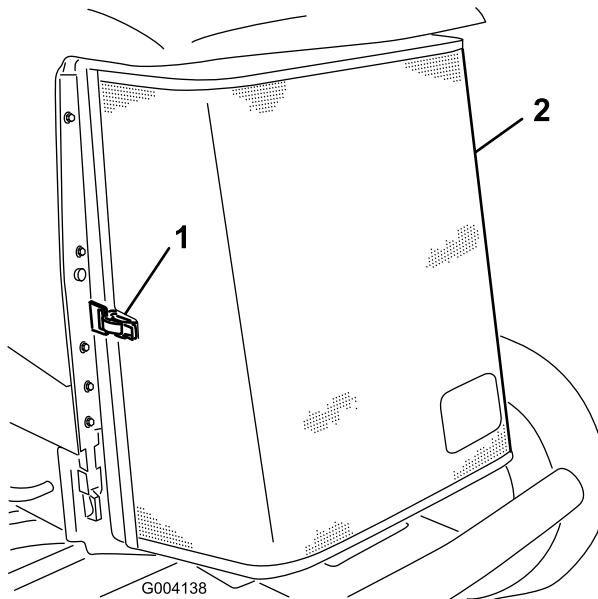

Figure 45
3. Unlatch the clamp and pivot open the rear screen (Figure 45).